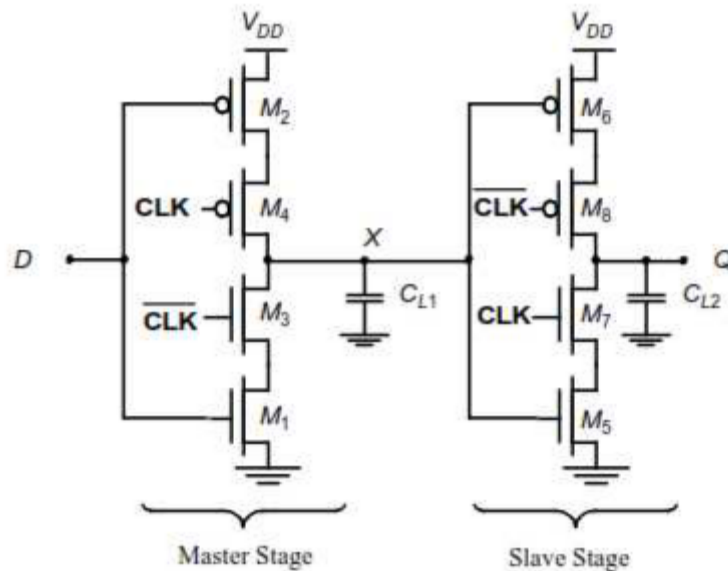

Figure 3.16  $C^2$ MOS master-slave positive edge-triggered register.
- Figure 3.16 shows positive edge-triggered register based on the master-slave concept, which is insensitive to clock overlap. This circuit is called the  $C^2$ MOS (Clocked CMOS) register.